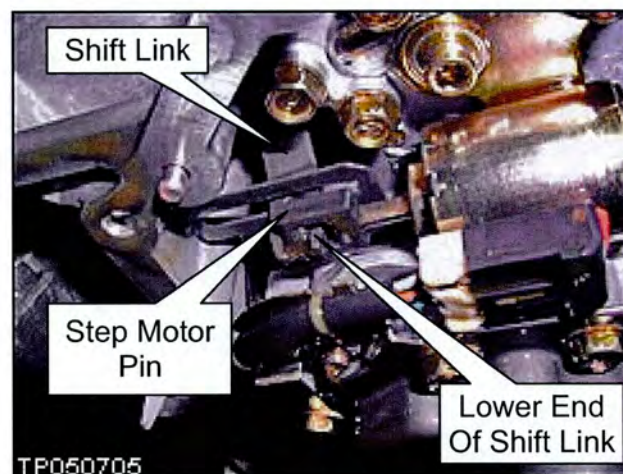

Figure 11
17. While you are doing Step 16 above, the lower end of the shift link must stick through the bottom of the step motor pin as shown in Figure 11.